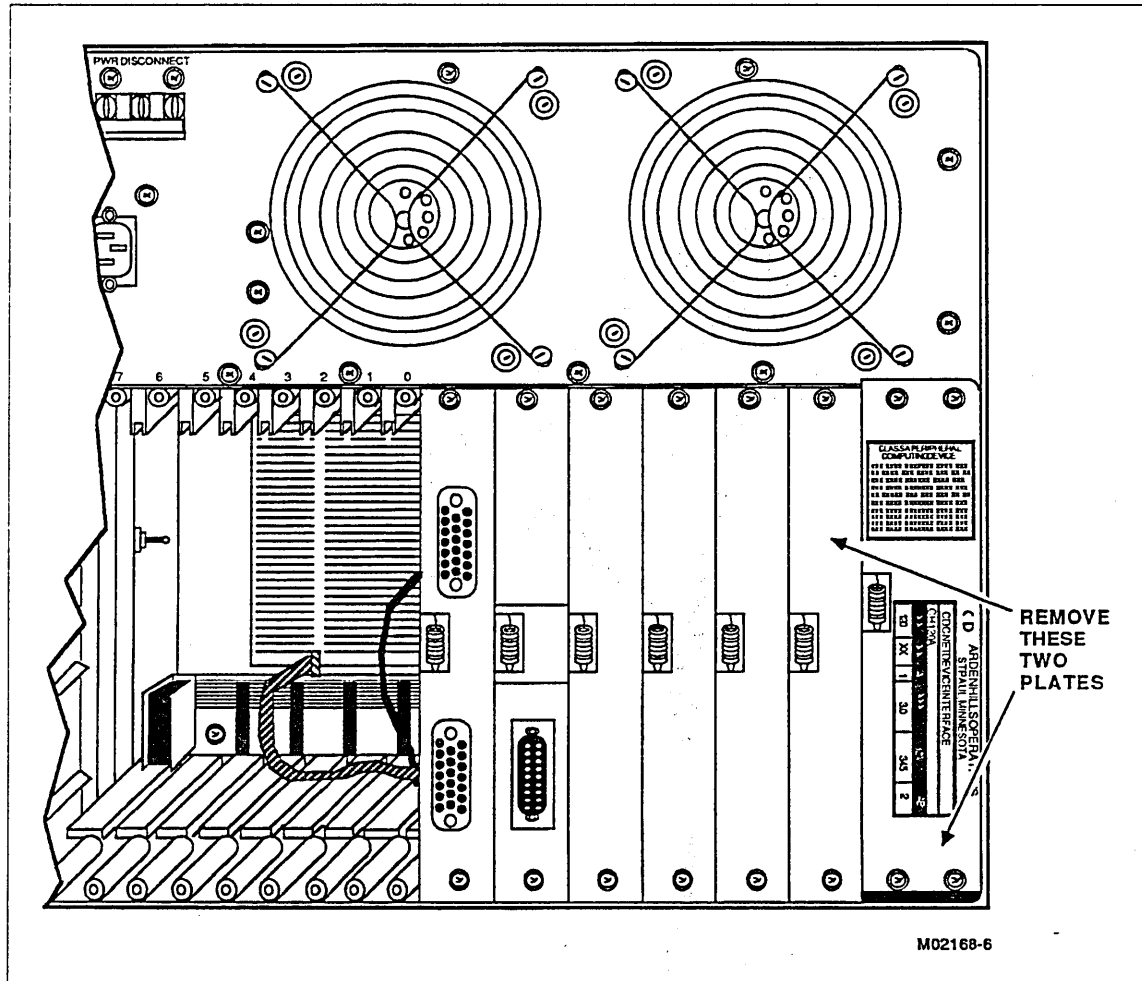

Figure 1-10. MCO Filler Plates
2. Refer to figure 1-10 and use a Phillips screwdriver to remove the two filler plates located on the far right at the back of the cabinet. Note that the rightmost plate is double width. Save the six screws for later use.